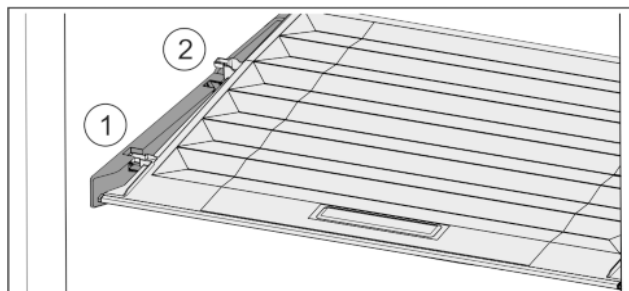

Fig. 35
- Pull the lid up at the front to the opening in the retaining parts Fig. 35 (1).
- Lift from the back and pull it up and out Fig. 35 (2).